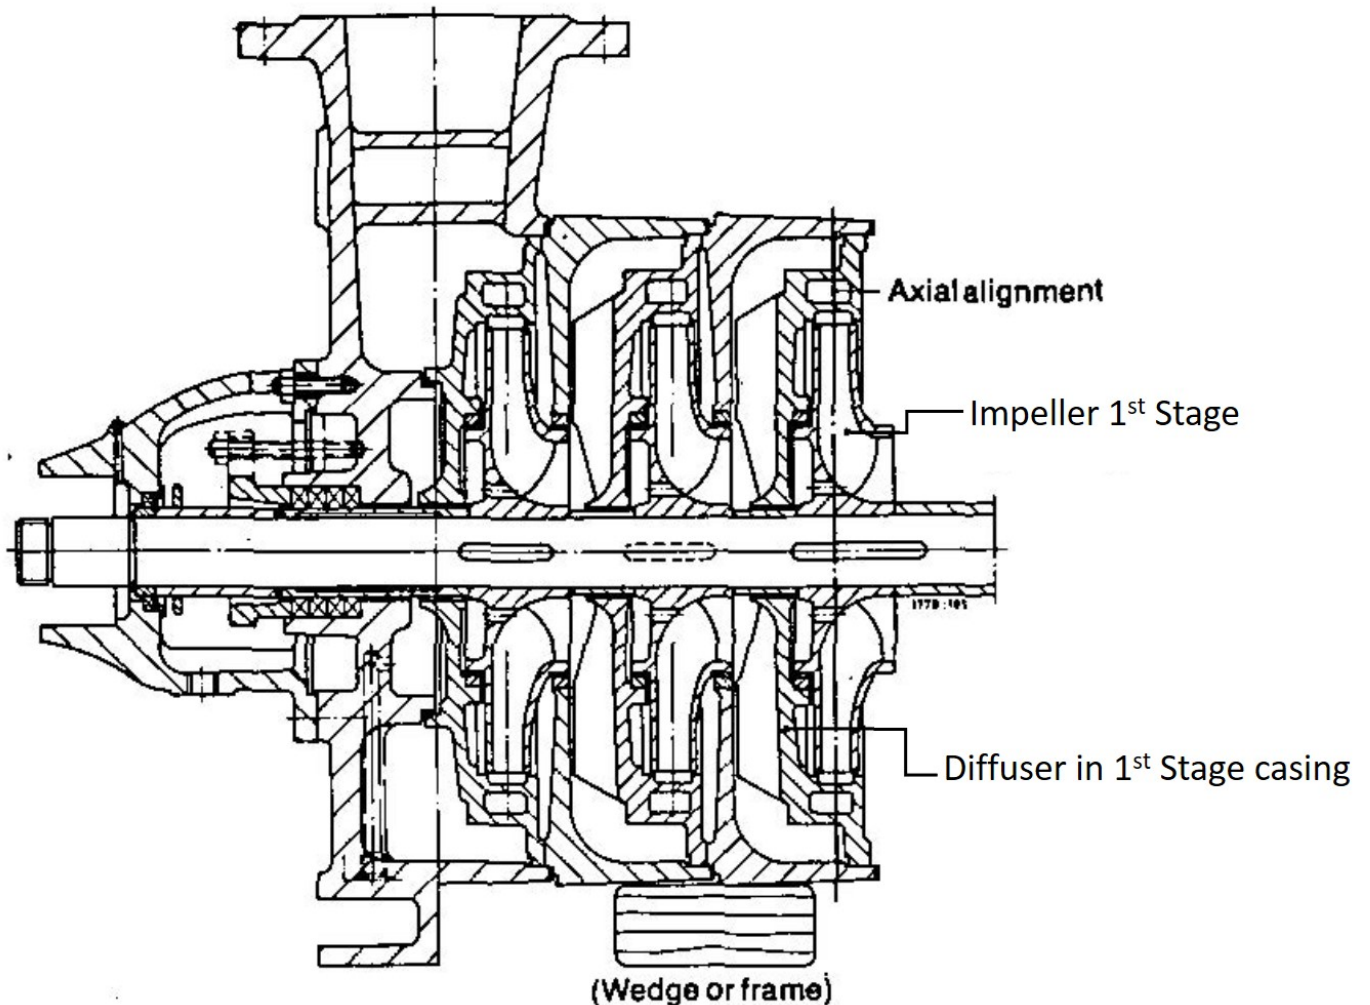

Fig. 7 Axial alignment of rotor
6. Support the stage casings 108 so that they do not collapse when the bearing housing (350) is removed (see Fig. 7).
After mounting the first stage diffuser 171.1, align the shaft and impeller so that the centre of the impeller (outlet) corresponds to the centre of the diffuser (inlet) (see Fig. 7).